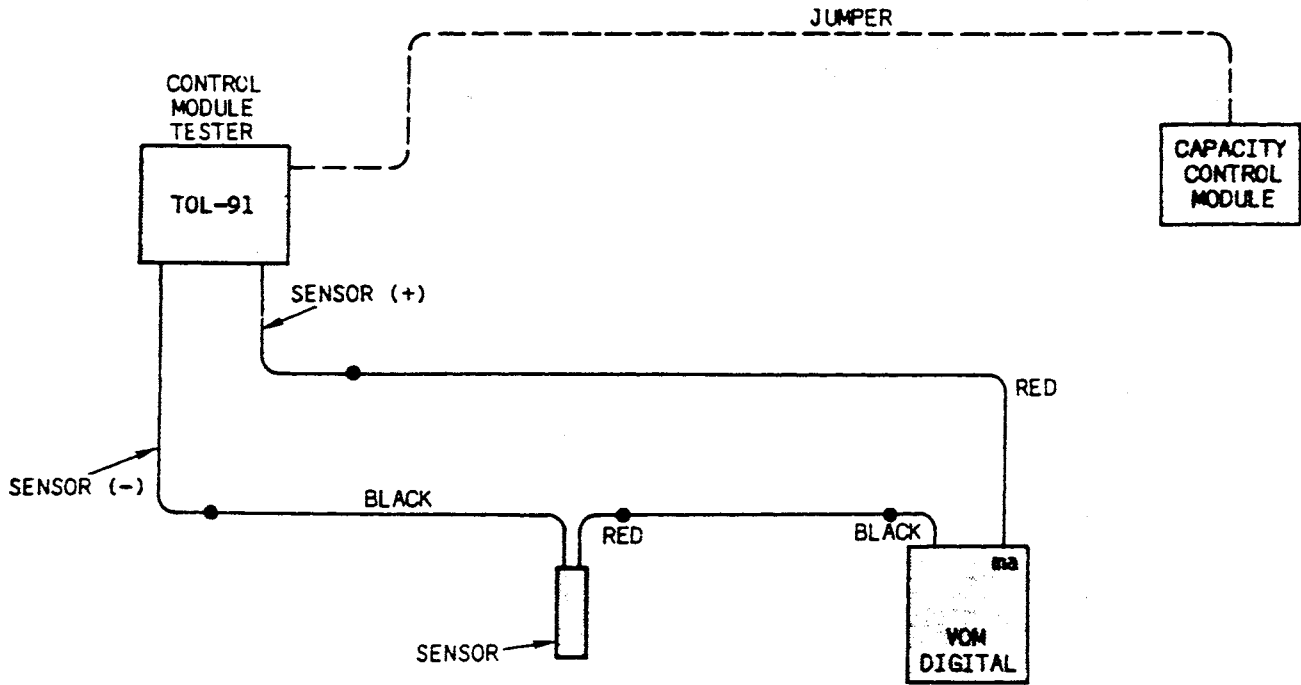

FIGURE 4 - Hookup Schematic for Sensor Test (AGM Capacity Control Module)
- b. Connect the sensor and VOM in series using the two leads (with alligator clips) provided on TOL-91. See Figure 4.